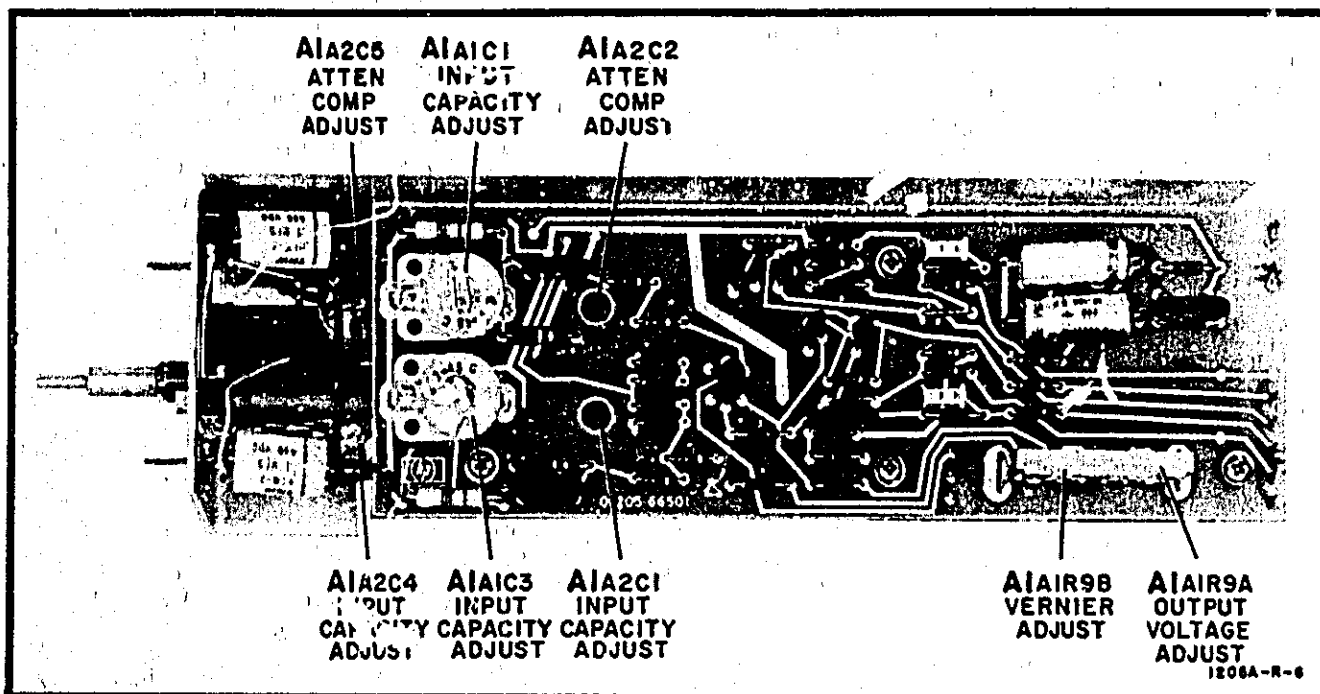

Figure 5-4. Vertical Preamplifier Module Adjustments
- d. Adjust A1A1R9B (Figure 5-4) until trace remains stationary when Vertical Vernier is turned.
- f. Repeat steps c through e for channel B, except adjust A2A1R9B (Figure 5-4) for stationary trace.
- b. Adjust A1A1R9A (Figure 5-4) for Voltmeter indication of 21.5 volts.
- c. Adjust A1A1C3 (Figure 5-4) for indication on LC meter.
- f. Adjust A1A1C1 (Figure 5-4) for 45-pF indication on LC meter.
- h. Adjust A2A2C3 (Figure 5-4) for 45-pF indication on LC meter.
- k. Adjust A2A1C1 (Figure 5-4) for 45-pF indication on LC meter.
- p. Adjust A1A2C2 (Figure 5-4) for best square-wave response.
- s. Adjust A1A2C5 (Figure 5-4) for best square-wave response.
- u. Adjust A2A2C2 (Figure 5-4) for best square-wave response.
- x. Adjust A2A2C5 (Figure 5-4) for best square-wave response.
- aa. Adjust A1A2C4 (Figure 5-4) for 45-pF indication on LC meter.
- dd. Adjust A1A2C1 (Figure 5-4) for 45-pF indication on LC meter.
- ff. Adjust A2A2C4 (Figure 5-4) for 45-pF indication on LC meter.
- ii. Adjust A2A2C1 (Figure 5-4) for 45-pF indication on LC meter.